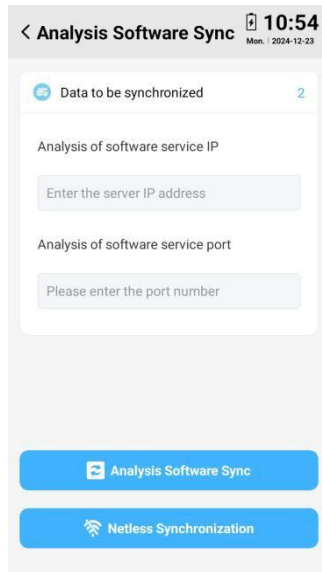

Figure 4.9-2 APP analysis software interface
(2) Return to the initial interface of the instrument APP, conduct corresponding tests, and click "analysis software synchronization" to enter the interface of analysis software synchronization, as shown in Figure 4.9-2. Two modes of network synchronization (that is, analysis software synchronization shown in Figure 4.9-2) and non-network synchronization can be selected.
(3) Network synchronization (analysis software synchronization) steps as follows:
① Enter the IP address and port number (displayed in the data synchronization interface of the analysis software on the computer) in the corresponding box of the analysis software synchronization interface on the instrument.
② On the data synchronization interface of computer analysis software, click "Start".
③ Click the "analysis software synchronization" button at the instrument end and wait for the data received by the analysis software. After the data is received, a data synchronization is completed.
④ The synchronized data can then be viewed on the PC analysis software.
(4) None Network synchronization steps are as follows:
① Use a Type-C USB data cable to connect the device and the computer where the analysis software is located.
② Click the "No network synchronization" button on the device to start data transmission.
③ Click the "No network synchronization" button of the analysis software, the data transmission and reception start, and wait for further data refresh of the analysis software, that is, a data synchronization is completed.